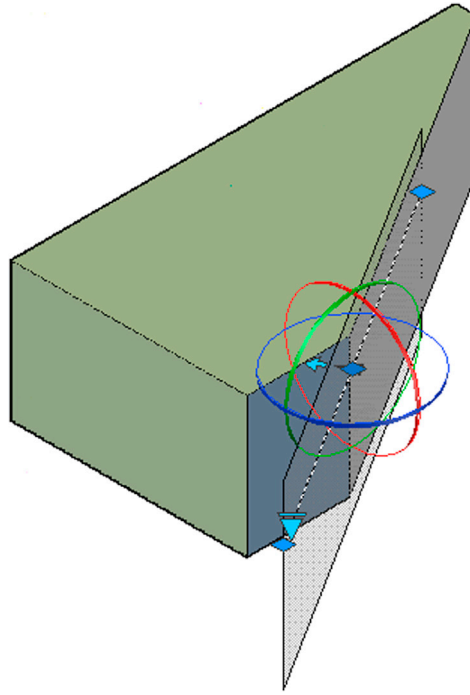

FIGURE 26.32 Section Plane.
- *Section Plane*: This tool, found under the Ribbon's Mesh, Section, allows you to easily section a mesh shape to view the interior or just a piece of it. This tool can be used on regular solids as well. Simply press Section Plane and select a method of locating the plane. The result of sectioning a simple box is shown in Fig. 26.32. The section itself can be rotated via the gizmo.